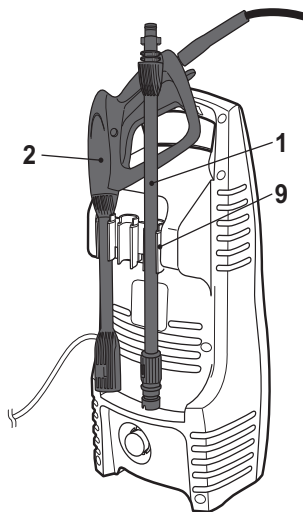

Fig. 14
- > Disassemble the pressure lance (1) from the spray gun (2) and remove the pressure hose (3).
- > Clip the pressure lance (1) and the trigger gun (2) onto the accessory holder (9) (Fig. 14).